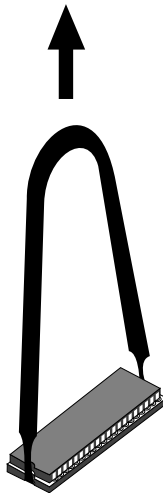

Figure 2-21 Removing the PROM Chip
- Insert the chip removal tool between the PROM chip and the socket on the board, as shown in Figure 2-21. Work the chip away from the socket in a rocking motion, pulling up on one side of the chip and then on the other side. It may be difficult to loosen.